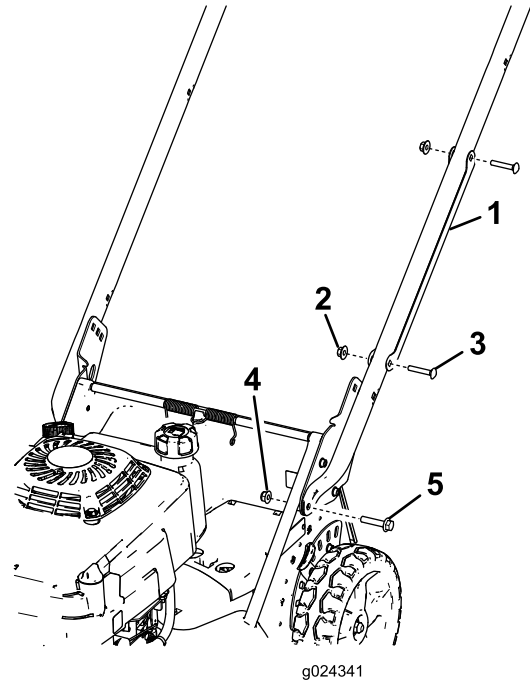

Figure 3
1. Remove the cable guard from the handle (Figure 3) by removing the 2 carriage bolts and 2 locknuts that hold the cable guard to the handle.
2. Install the handle ends onto the mower housing with 2 hex-head-flange bolts (5/16 x 1-1/2 inches) and 2 flange nuts (5/16 inch) as shown in Figure 3.
1. Carriage bolt—5/16 x 1-1/2 inches (2)
2. Handle bracket (2)
3. Flange nut—5/16 inch (2)
7. Position the cable guard onto the handle **with the cable(s) inside the guard**, and secure the guard to the handle with the 2 carriage bolts and the 2 locknuts that you previously removed (Figure 3).